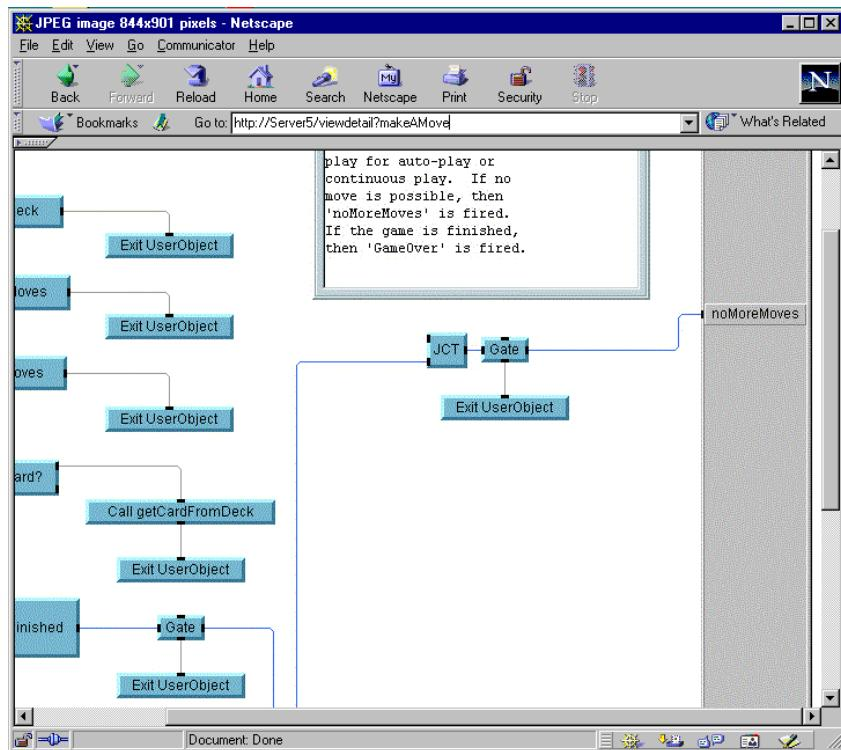

Figure 12-10. Detail View of a UserFunction Displayed in the Browser
6. The remote user goes back to the VEE Web Server Home Page once again and clicks on **Detail View of UserFunction**, and types in the UserFunction name `makeAMove`. The browser displays the UserFunction `makeAMove` as shown in Figure 12-10.
The remote user is able to see the error in the VEE program. There is an input pin not connected on the JCT object shown in Figure 12-10. The remote user could now help you troubleshoot Solitaire.vee and resolve the error. Using a similar process of working together over the Web, you could collaborate with remote users or develop programs together.